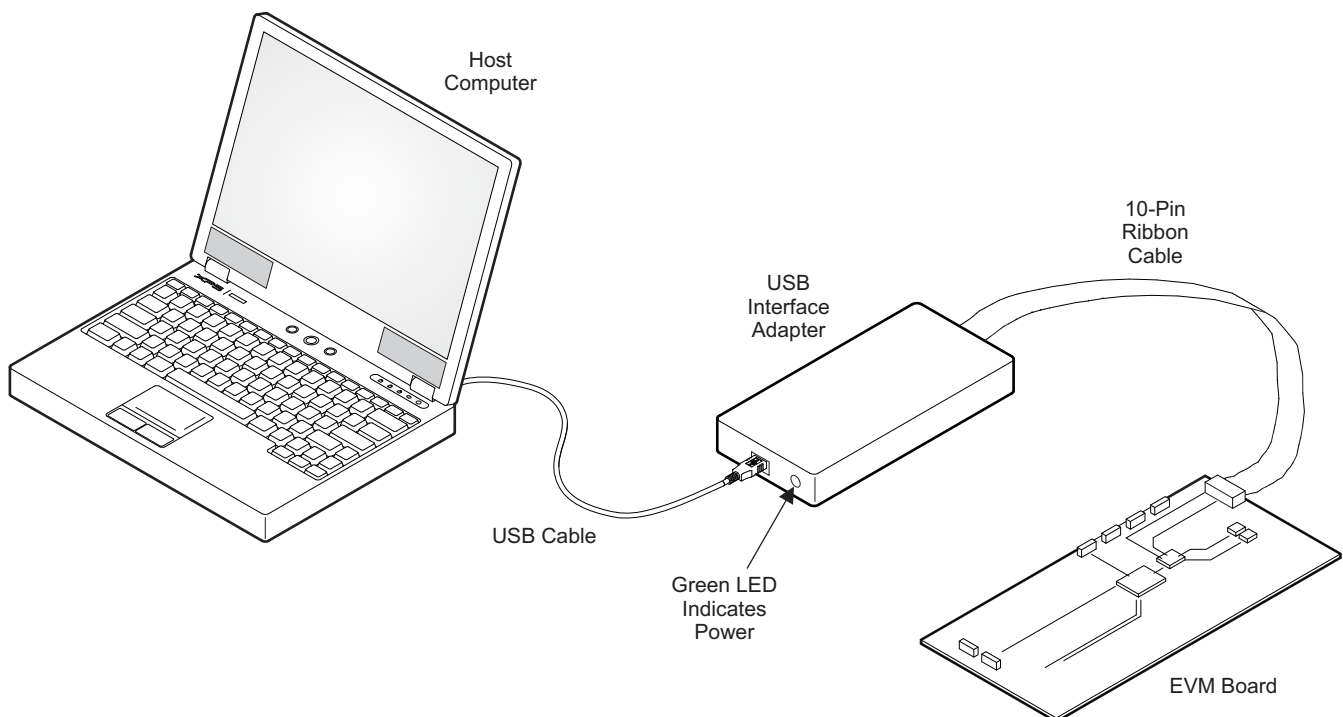

Figure 1. USB Interface Adapter Quick Connection Diagram
- Connect one end of the USB-TO-GPIO box to the PC using the USB cable and the other end to J5 of the TPS61161EVM using the supplied 10-pin ribbon cable per Figure 1. The connectors on the ribbon cable are keyed to prevent incorrect installation,